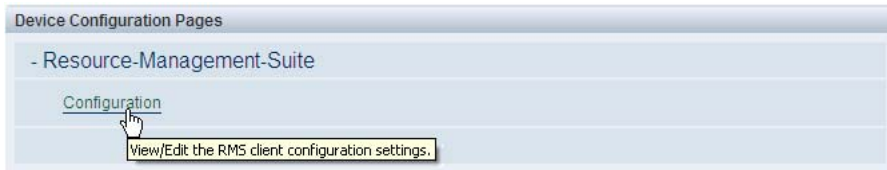

FIG. 158 Device Configuration Options - Resource Management Suite > Configuration
4. Click on *Configuration* (FIG. 158):